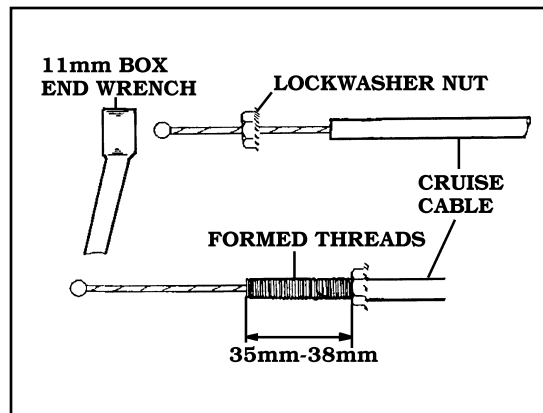

FIGURE 20
1. BEFORE USING THE **SNAP-IN ADAPTER**, REMOVE THE ADJUSTABLE SLEEVE FROM THE **CRUISE CABLE**. TO USE THE **SNAP-IN ADAPTER**, IT WILL BE NECESSARY TO FORM THREADS ON THE END OF THE **CRUISE CABLE**. THIS IS EASILY ACCOMPLISHED BY PLACING THE **LOCKWASHER NUT** ON THE END OF THE **CRUISE CABLE** WITH YOUR FINGERS. THEN USING AN **11MM BOX END WRENCH** AND TURNING CLOCKWISE UNTIL THE DESIRED AMOUNT OF THREADS HAVE BEEN FORMED. **FIGURE 20**
3. BEFORE USING THE **LOCKWASHER NUT**, REMOVE THE ADJUSTABLE SLEEVE FROM THE **CRUISE CABLE**. THEN USE THE **LOCKWASHER NUT** TO FORM THREADS ON THE END OF THE **CRUISE CABLE**. THIS IS EASILY ACCOMPLISHED BY PLACING THE **LOCKWASHER NUT** ON THE END OF THE **CRUISE CABLE** WITH YOUR FINGERS. THEN USE AN **11mm** BOX END WRENCH AND TURN CLOCKWISE UNTIL THE DESIRED AMOUNT OF THREADS HAVE BEEN FORMED. **FIGURE 20, PAGE 14**
1. BEFORE USING THE **FLAG NUT**, IT WILL BE NECESSARY TO FORM THREADS ON THE END OF THE **CRUISE CABLE**. THIS IS EASILY ACCOMPLISHED BY PLACING THE **LOCKWASHER NUT** ON THE END OF THE **CRUISE CABLE** WITH YOUR FINGERS. THEN USE AN **11MM** BOX END WRENCH AND TURN CLOCKWISE UNTIL THE DESIRED AMOUNT OF THREADS HAVE BEEN FORMED. **FIGURE 20, PAGE 14**